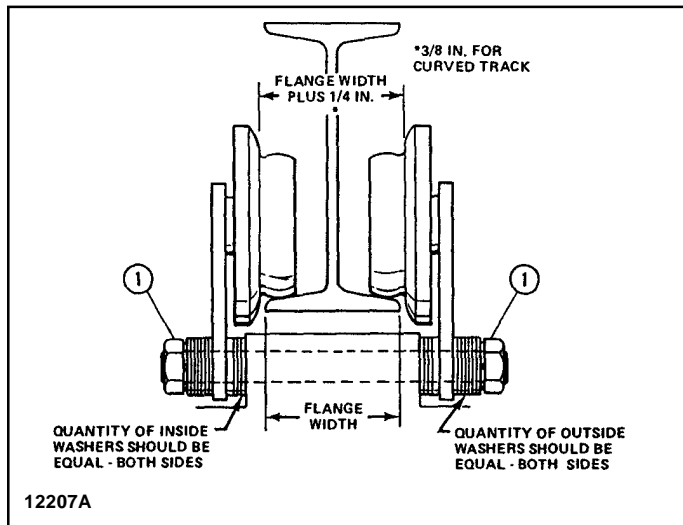

Figure 2. Sectional View of Trolley Showing Proper Wheel and Washer Spacing.
4. Measure exact width of bottom beam flange and add 1/4" to this dimension. This is the required distance between inside faces of wheel flanges to obtain proper operating clearance, as indicated in Figure 2.